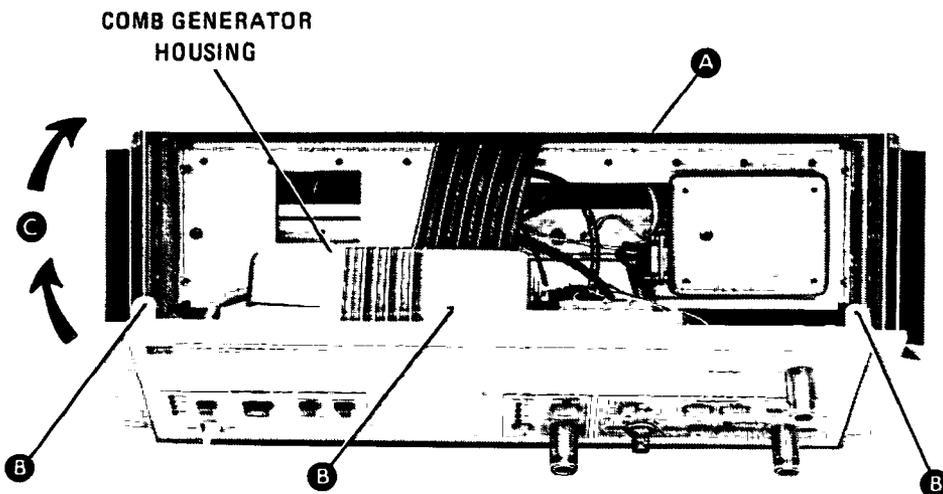

Figure 13. Comb Generator Assembly Removal
- a. Remove top trim piece. Refer to Figure 13.
Refer to Figure 13 for all test point and component locations.